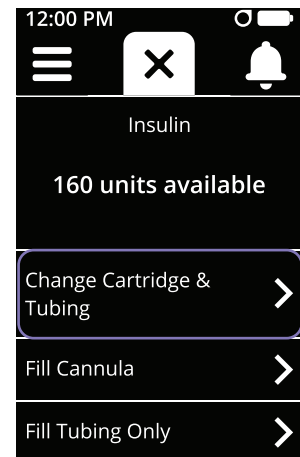

Figure 73
- b. Tap **Change Cartridge and Tubing** (see Figure 73).